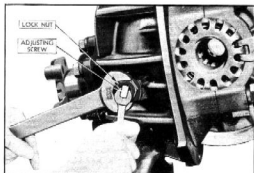

Fig. 30—Ring Gear Thrust Pad Adjustment
7. Install the thrust pad and tighten the screw until the bronze tip lightly engages the back of the ring gear while rotating gear. Back off the screw one twelfth (1/12) of a turn and then tighten the lock nut, making sure the screw does not turn during the locking process. This will provide .005" to .007" clearance, Fig. 30.